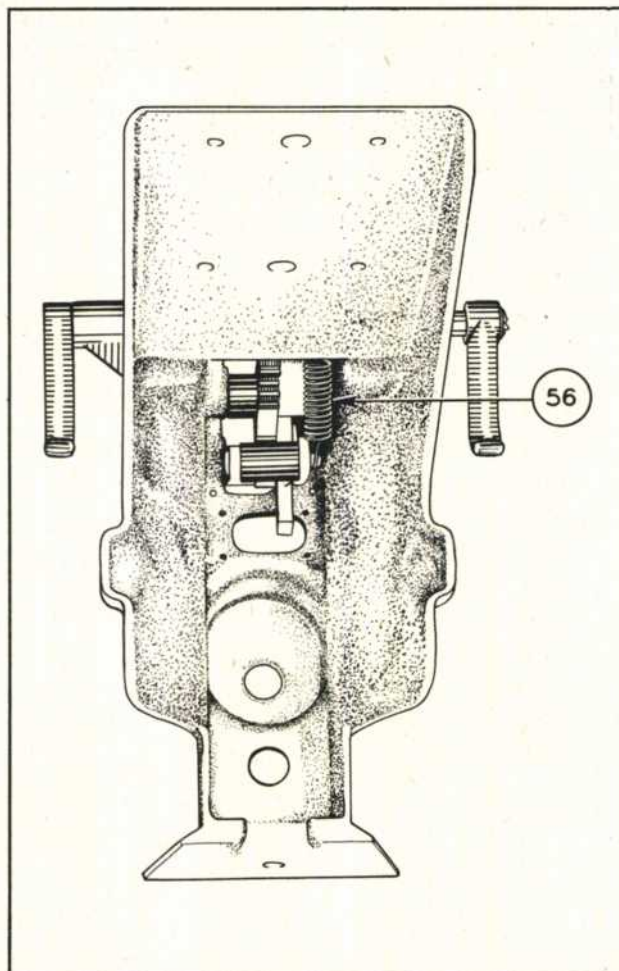
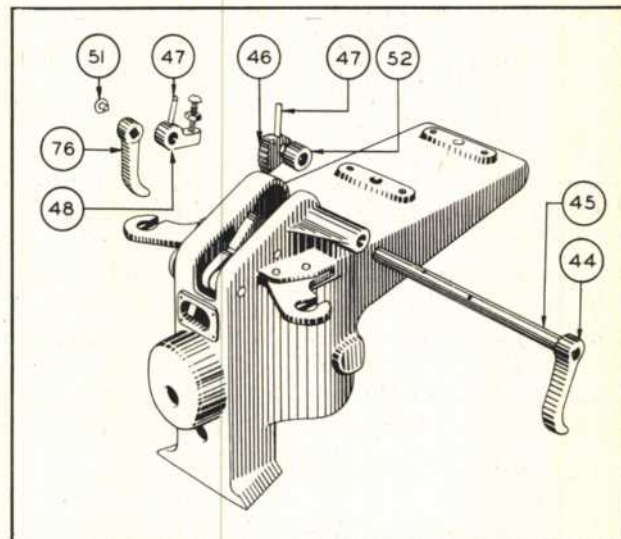
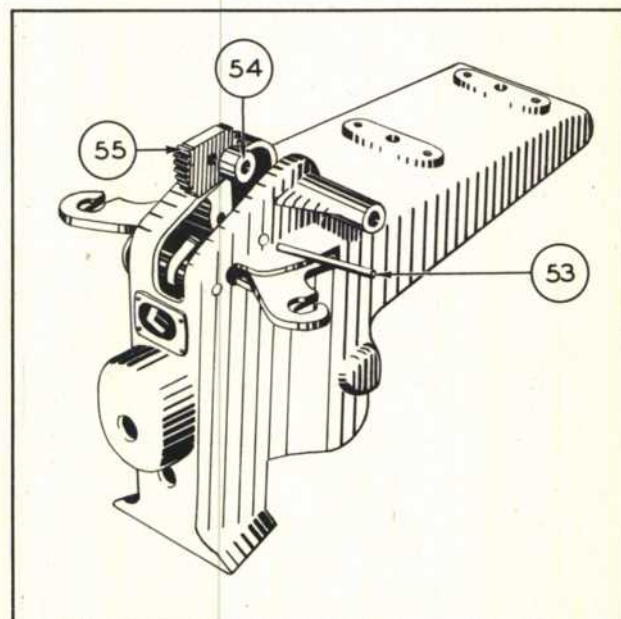
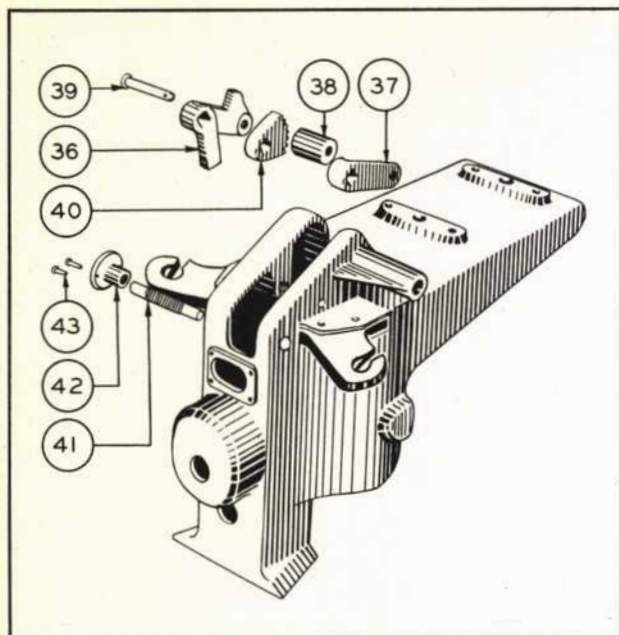

Figure 21—Removing Trigger Return Spring
Figure 22—Removing Upper Trigger Gear
Figure 23—Removing Intermediate Trigger Gear
Figure 24—Disassembling Trigger Components
- a. Check trigger return spring (56, figure 21) on back guard.
(2) Remove trigger return spring. (See 56, figure 21.)
(3) Remove screw (51, figure 22), pins (47), left finger trigger (76) and trigger adjustment stop (48). Draw out trigger and shaft assembly, which will permit removal of upper trigger gear (46) and upper trigger gear spacer (52).
(4) Intermediate trigger gear (55, figure 23) and trigger gear spacer (54) may be removed by driving out trigger gear shaft (53).
(5) Remove screws (43, figure 24) holding trigger gear shaft bushing (42) in left side of back guard. Gear shaft (41) may then be removed through opening in back guard, releasing trigger parts composed of: right trigger lever (37), left trigger lever (36), trigger lever roller (38), pin (39), and lower trigger gear (40).
a. To reassemble the back guard unit (figure 24), first assemble lever parts; ie, lower trigger gear (40), pins (39), trigger roller lever (38), left trigger lever (36) and right trigger lever (37). Assemble these lever parts to back guard with gear shaft (41), trigger gear shaft bushing (42) and screws (43). Next insert trigger shaft (45, figure 22) and right finger trigger (44) in back guard unit, holding upper trigger gear (46) and trigger gear spacer (52) in line with shaft as it is driven through bosses. Replace trigger adjustment stop (48), and fasten gear and stop to shaft with pins (47). Left finger trigger (76) should then be assembled to shaft with screw (51). (After assembly, screw should be staked securely in place.) Assemble intermediate trigger gear (55, figure 23), trigger gear spacer (54) and trigger gear shaft (53). (Following this procedure simplifies the operation of matching punch marks on gears. Trigger gear shaft should be staked in back guard at both ends.) Attach trigger return spring (56, figure 21) onto trigger and shaft assembly and lever assembly.